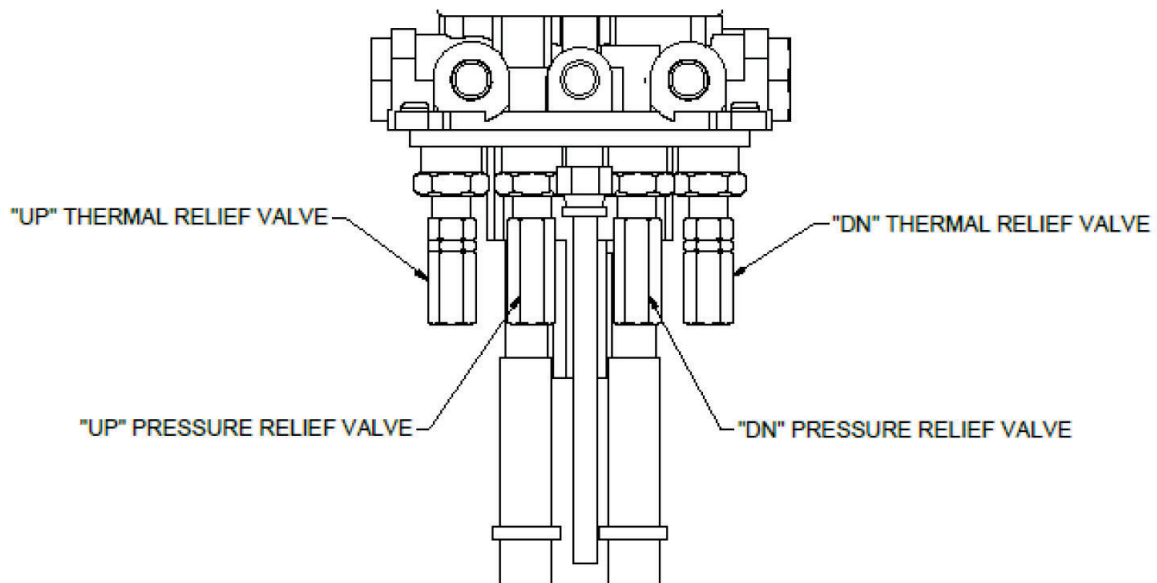

Figure 2 – Up / Dn Pressure and Thermal Relief Valve Location
- b) Adjust the pressure and thermal relief valves (Reference Figure 2):